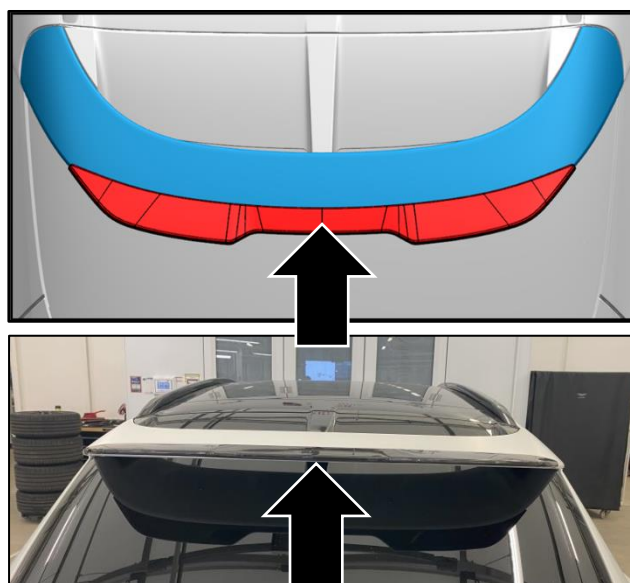

Figure 3
3. Apply 10 kg of upwards force to the area shown (refer to Figure 3).